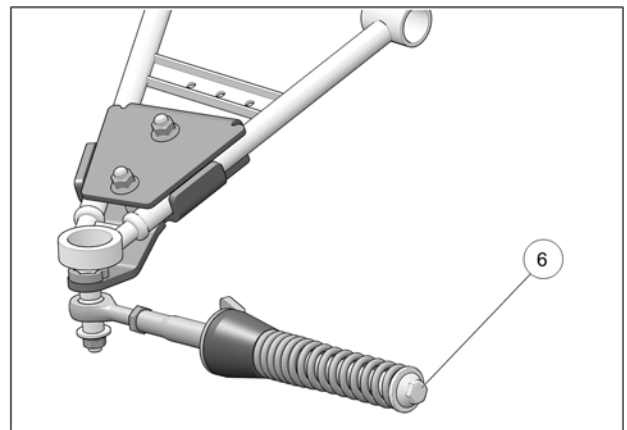

Fig. 22
- Verify that spring assembly bolt (6) is tightened to the recommended torque specification: 75 N•m [55 lb•ft]. Refer to Fig. 22